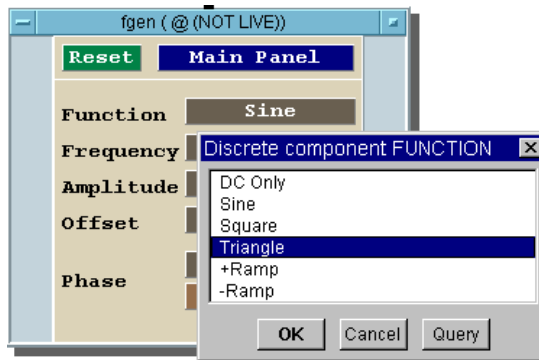

Figure 3-12. The Function Pop-up Menu on fgen
5. Click Sine in the Function field to get a pop-up menu, and then select Triangle as shown in Figure 3-12.